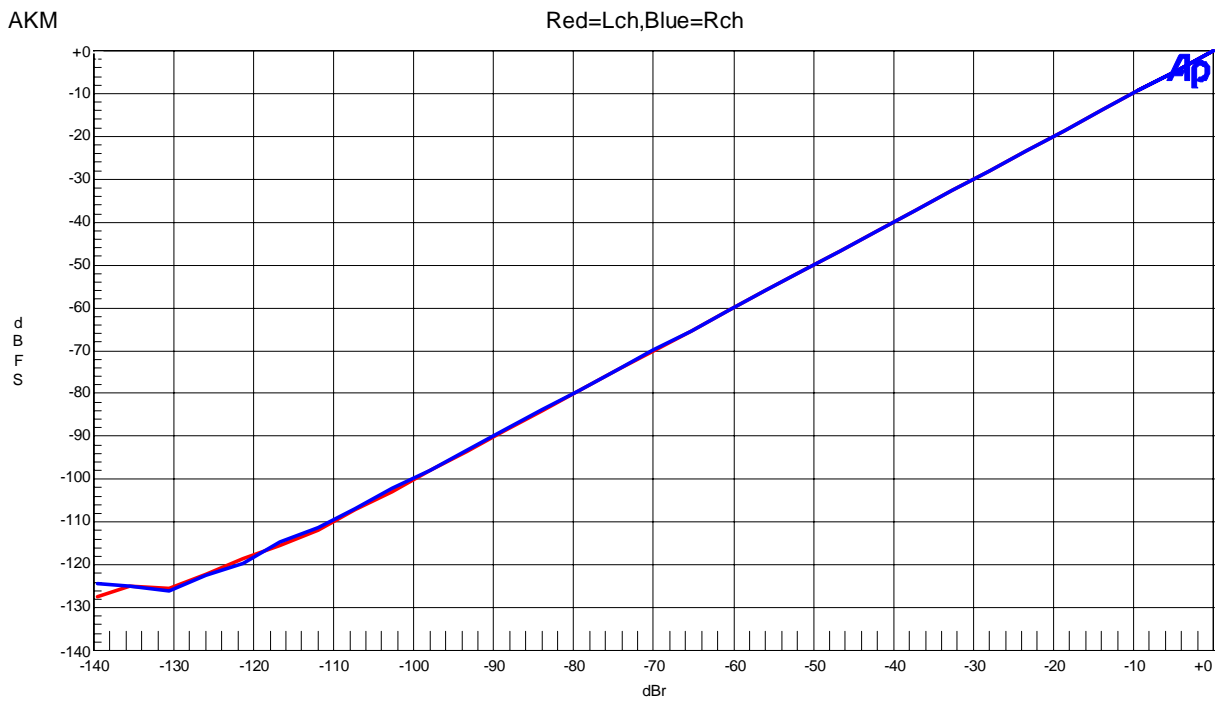

Figure 21. Linearity (Input Frequency=1kHz)
- Figure 21. Frequency Response (Input Level=0dBFS)